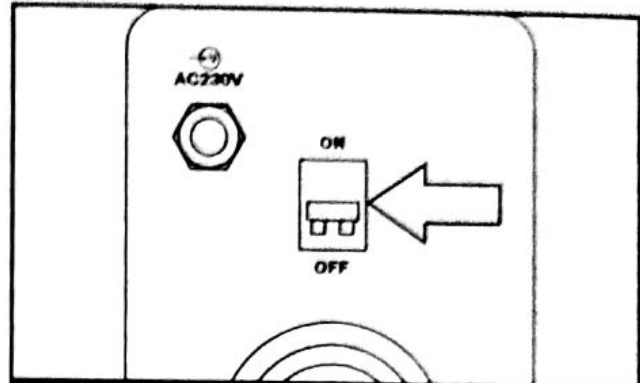

Fig. 15
Connect to the mains supply and press the On/Off switch (Fig. 15) to the ON position (I) to stop the machine press the On/Off switch to the OFF position (0).